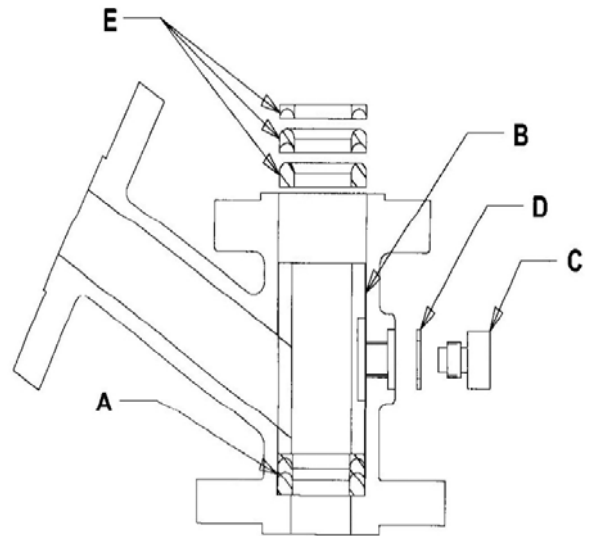

Figure 5 – Installation of graphite rings.
1. Install the pieces of the inlet ring set "A" (See Fig. 5) separately. The rounded ends of the ring must face the gland. Place the ring in the body so that it seats evenly on the shoulder.
4. Seat the pieces of the gland ring "E" on top of the cage separately. The ring should be installed as shown in figure 5 above.